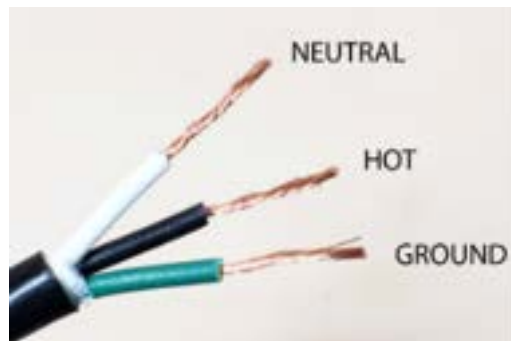

Figure 14. The Hot (Black), Neutral (White) and Ground (Green) wires in a US wall power cable [NEC].
You will be performing this activity as a group. Note: many of these connections have been made for you. Refer to Figure 14.
2. You will be building some part of this circuit on the breadboard (namely connection to Arduino, Rocker switch and LED will be made on the breadboard). We will be testing the functionality of your circuit. This circuit will be later transferred to your project box. Refer to Figure 14 and identify the Hot (Black or other colors), Neutral (White) and Ground (Green) wires in your wall power cable which is a standard of the National Electrical Code (NEC) and should be followed in your wiring as well.